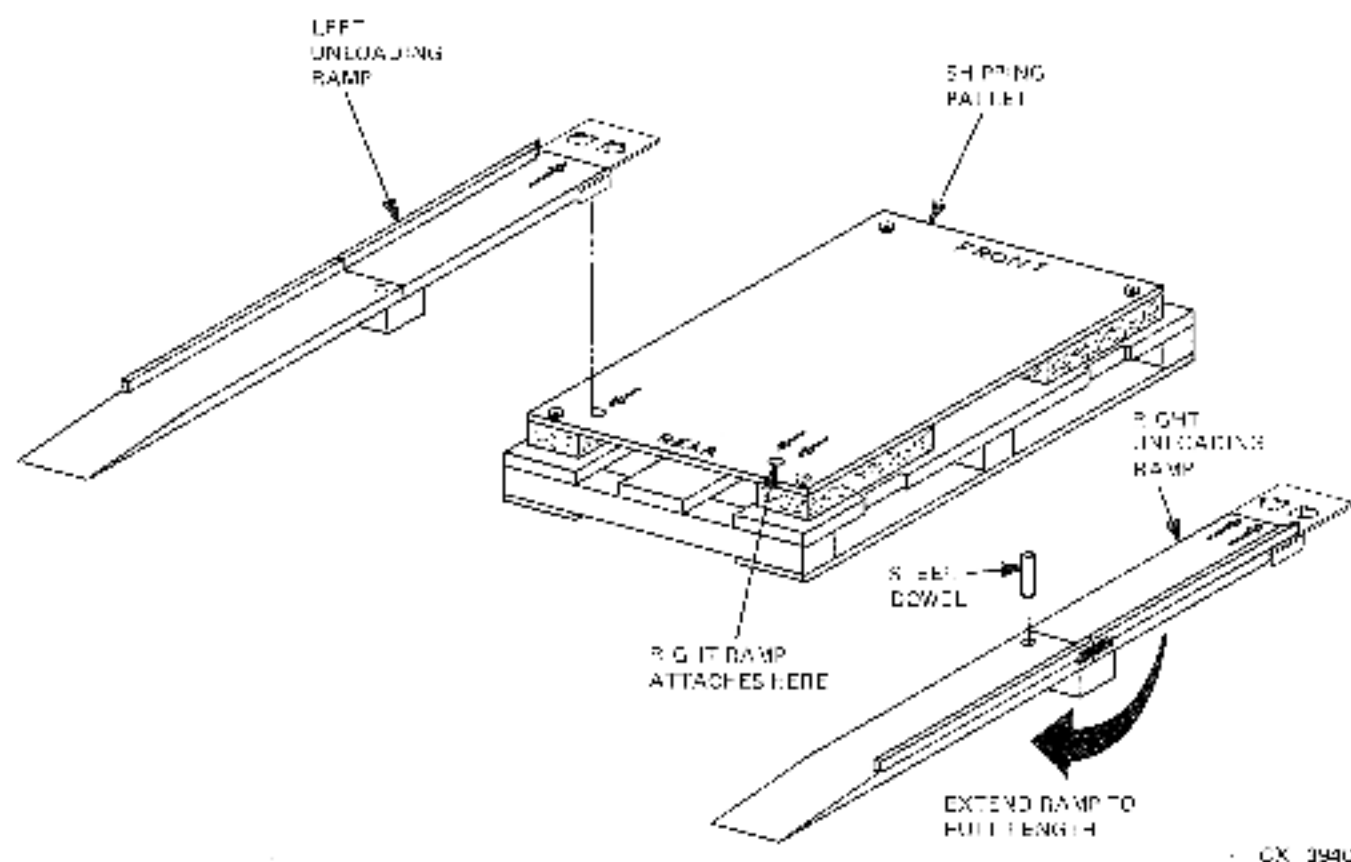

Figure 4-2 Ramp Construction (40-inch Cabinet)
8. Extend the loading ramps to their full length by connecting the two sections of each ramp with the steel dowel (taped in the ramp). Refer to Figure 4-2.
9. Matching the arrows, attach the two unloading ramps to the pallet by fitting the tab of each ramp board into the pre-drilled holes on the rear of the pallet deck (Figure 4-2).